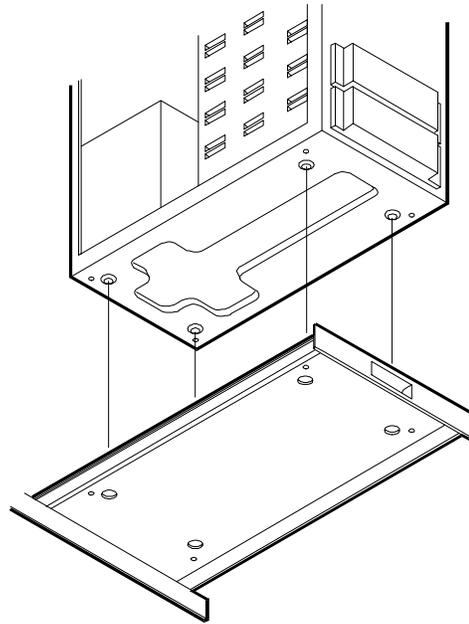

Figure 5-4. Lift the LC 3 onto the Base Unit (View from Underneath)
12. Be sure the anti-tip foot and the leveler screws are fully extended to prevent the rack from rolling away or tipping over. Get help to lift the NetServer onto the right side of the extended base unit, as shown in Figures 5-4 and 5-5.